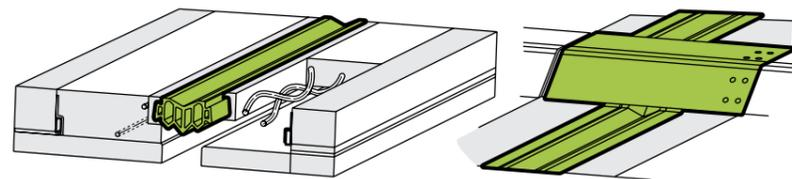

Fig. 1 : Detail of the footpath joint. Right: kerb cover plate.
- pavement joints - *figure 1*;